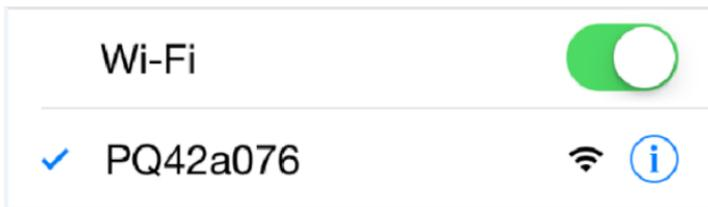

Fig. 4-1 WIFI hotspot of Sinexcel SVG
- (1) Close disconnecting switch between power grid and Static Var Generator to electrify the machine.
- (2) Turn on WIFI of mobile phone, tablet and PC and add the hotspot. The hotspot name is “PQ+6 random letters” (e.g.: PQ42a076), as shown in Fig. 4-1. The initial password of the hotspot is 08080808.